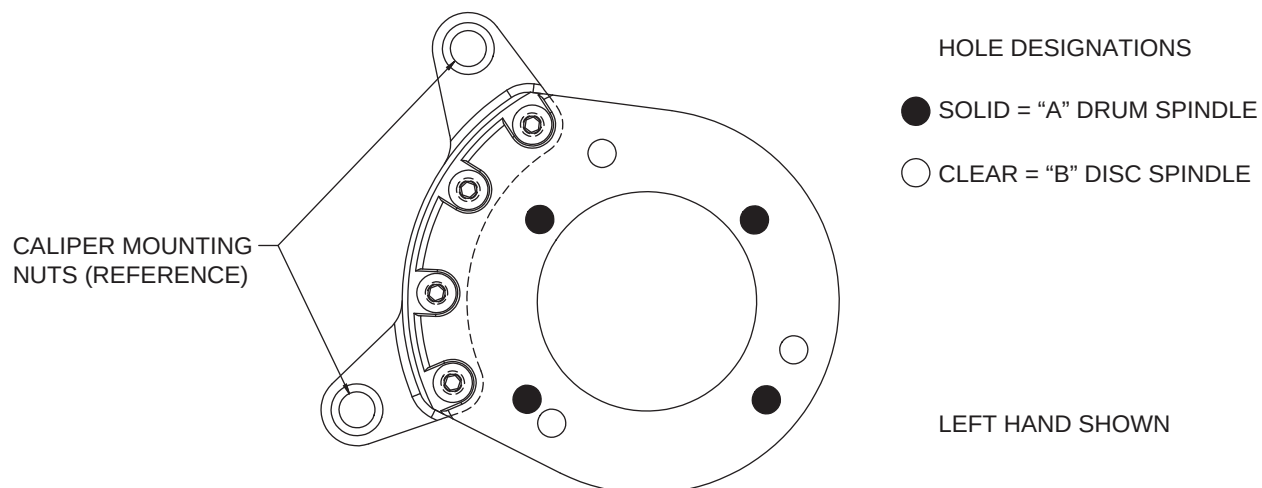
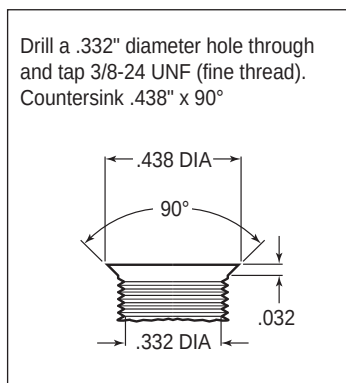
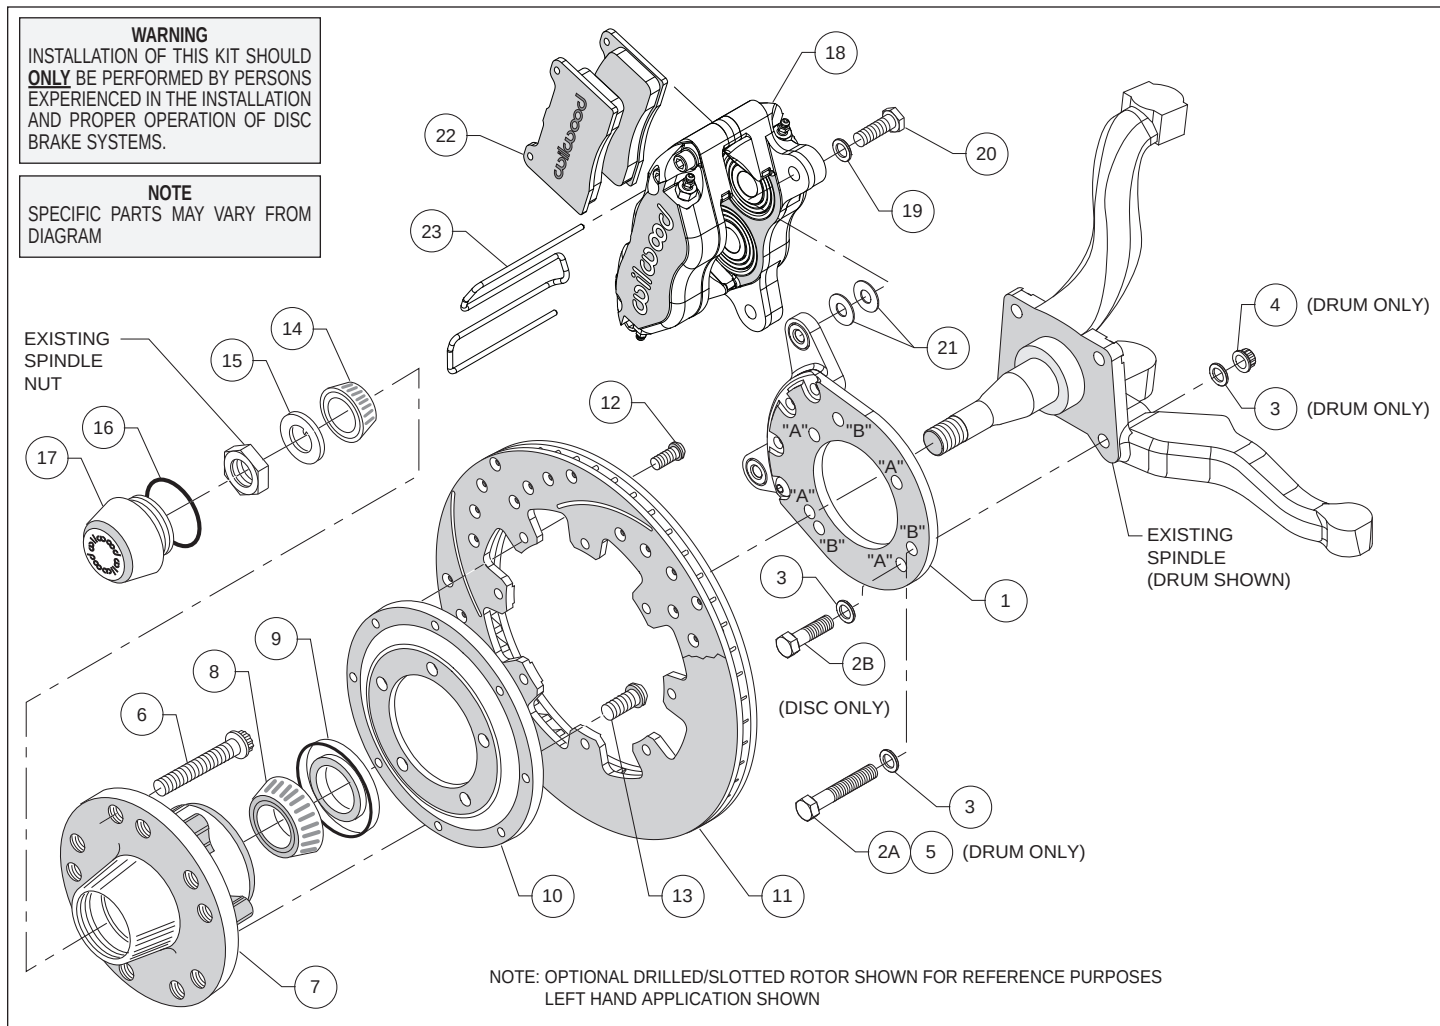
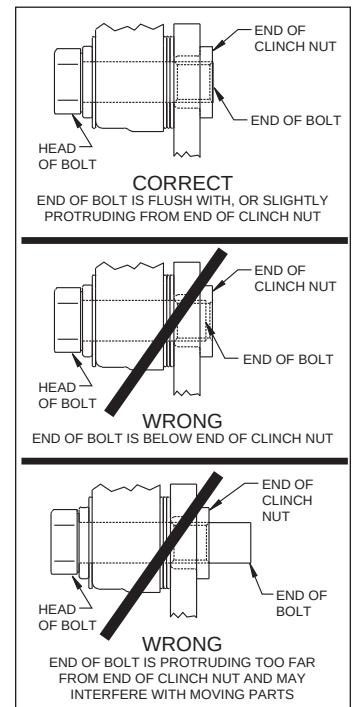

Figure 1. Wilwood Caliper Mounting Bracket
Figure 2. Drill and Tap Detail
Figure 4. Typical Installation Configuration
Figure 5. Clinch Nut Engagement Diagram
This kit has been designed for use with both the disc brake or the drum brake configuration of vehicle. The only difference is in how the Wilwood caliper mounting bracket is installed. The same bracket is used for both configurations; the disc brake version utilizes three mounting holes while the drum brake application uses four mounting holes (see Figure 1). For your convenience we have supplied bolt kits for both applications (see parts list and Figure 4 as necessary). Use the bolt kit that is applicable to your vehicle and disregard the other one.
Using the caliper mounting bracket as a template (refer to Figure 1 as necessary), locate and verify the three original holes on the spindle that need to be modified. Drill a .332" diameter hole through all three holes, then tap 3/8-24 UNF (fine thread). Countersink the holes to .438" diameter x 90°, as shown in Figure 2.
Assembly Instructions (numbers in parenthesis refer to the parts list, and Figure 4 on the preceding pages): **CAUTION:** All mounting bolts must fully engage clinch nuts. Be sure to check that all bolts are either flush or protruding through flanged side of clinch nut after shimming, Figure 5.
•**NOTE:** This kit uses the same mounting bracket (1) for both the drum and disc brake spindles. The drum version, Photo 1, uses four mounting bolts (designated "A"), while the disc version, Photo 2, uses three (designated "B"). Refer to Figures 1 and 4 for the basic installation position of the bracket and the "A" and "B" reference designations (not physically marked on the brackets).
For Drum Spindle: Align bracket, using the four "A" holes, to the face of the spindle and attach using bolts (2A and 5), washers (3), and lock nuts (4), as shown in Figure 4. Ensure that the flanged heads of the clinch nuts in the bracket are facing outboard, Photo 1. Torque nuts to 30 ft-lb.
For Disc Spindle: Align bracket, using the three “B” holes, to the face of the spindle and attach using bolts (2B) and washers (3), as shown in Figure 4. Finger tighten. Ensure that the flanged heads of the clinch nuts in the bracket are facing outboard, Photo 2. Remove bolts one at a time, apply red *Loctite*® 271 to threads, and torque to 40 ft-lb.
- Orient the rotor (11) and the rotor adapter (10) as shown in Figure 4 and Photo 5. Attach the rotor to the adapter using bolts (12). Using an alternating sequence, apply red *Loctite*® 271 to the threads, and torque to 25 ft-lb.
- Mount the adapter/rotor assembly (10/11) to the hub (7) using bolts (13), as shown in Figure 4 and Photo 6. Using an alternating sequence, apply red *Loctite*® 271 to the threads, and torque to 55 ft-lb.
- Pack the small outer bearing cone (14) with high temperature disc brake bearing grease and install into hub (7). Slide the hub/rotor assembly onto the spindle. Secure using spindle washer (15) and OEM spindle nut, Photo 7. Adjust bearings per OEM specifications. Install saved OEM nut lock (if any) and a new cotter pin (not included).
- NOTE:** Please reference the caution statement at the beginning of the assembly instructions. Mount the caliper (18) onto the caliper mounting bracket (1) using bolts (20) and washers (19), as shown in Figure 4. Initially place two .035" thick shims (21) on each bolt between the caliper and the bracket, Photo 9. Temporarily tighten the mounting bolts and view the rotor (11) through the top opening of the caliper. The rotor should be centered in the caliper, Photo 10. If not, adjust by adding or subtracting shims between the bracket and the caliper. Always use the same amount of shims on each of the two mounting bolts. **NOTE:** The end of each bolt must be flush with or slightly protruding from the head of the clinch nut, as shown in Figure 5. If necessary place spare shims between washer (19) and caliper